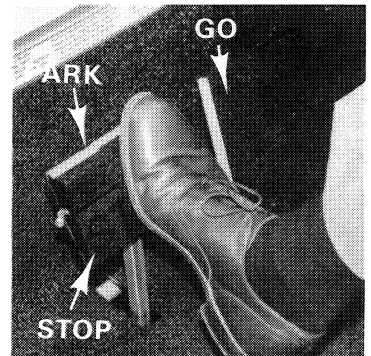
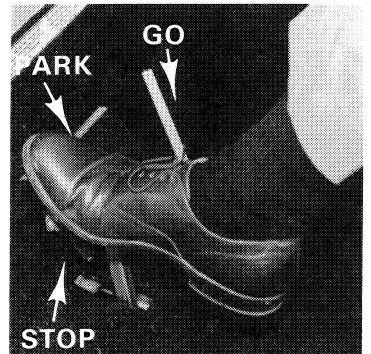

Figure 5
Figure 6
**Brake Pedal** - The brake pedal is the large pedal on the left with the word "STOP" molded in it (See Figure 5). To slow or stop the car, push the brake pedal with your right foot.
**Parking Brake Pedal** - The parking or park brake pedal is the small raised portion in the upper left corner of the brake pedal with the word "PARK" molded in it (See Figure 5). The words "Park Brake" are marked above this pedal. To set the park brake, push the brake pedal and tilt the park brake portion of the pedal forward with right foot (See Figure 6).